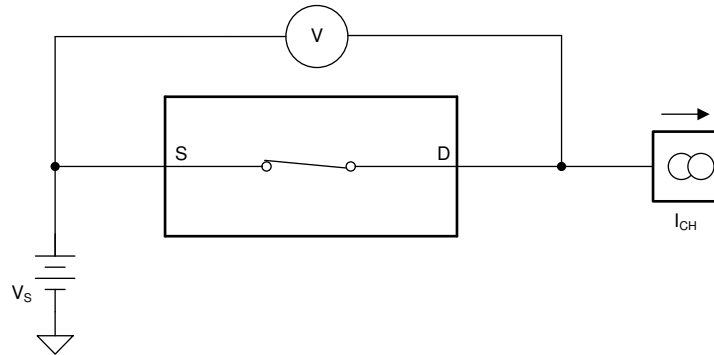

Figure 8-1. On-Resistance Measurement Setup
The on-resistance of the TMUX6121, TMUX6122, and TMUX6123 is the ohmic resistance across the source (Sx) and drain (D) pins of the device. The on-resistance varies with input voltage and supply voltage. The symbol  $R_{ON}$  is used to denote on-resistance. The measurement setup used to measure  $R_{ON}$  is shown in Figure 8-1. Voltage (V) and current ( $I_{CH}$ ) are measured using this setup, and  $R_{ON}$  is computed as shown in Equation 1: